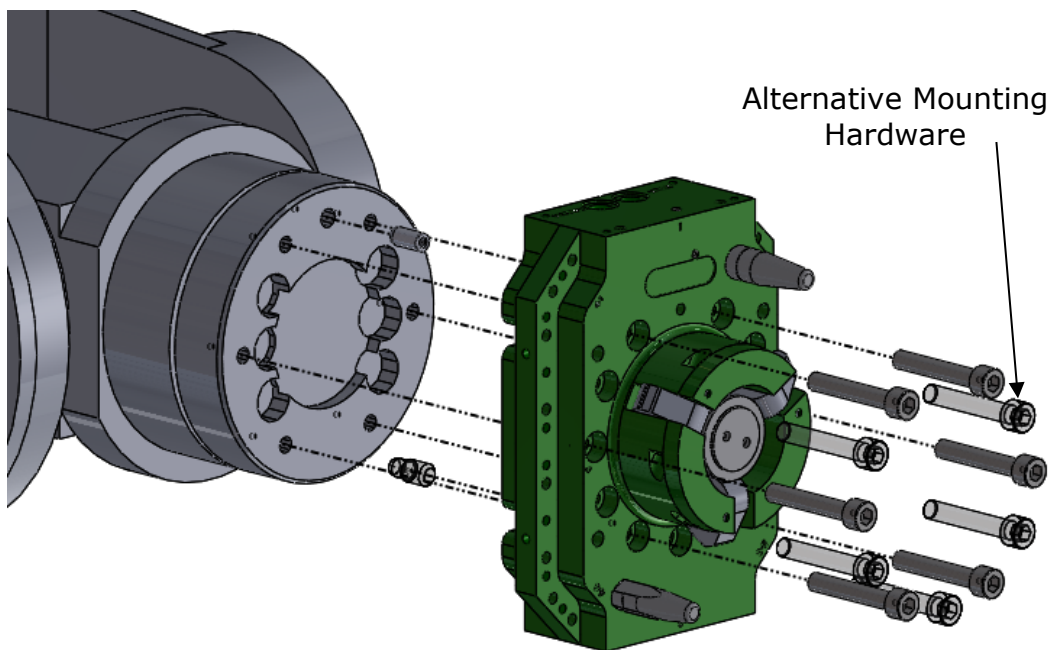

Figure 5.1.1-1. E125 Robot Side Installation w/ M10 Hardware
1. Locate the Robot Side to the manipulator mounting flange utilizing the locating boss and one (1) M10 locating dowel. Alternatively, the Robot Side can be located using one (1) M10 locating dowel and one (1) M10/M12 stepped locating dowel (Figure 5.1.1-1).